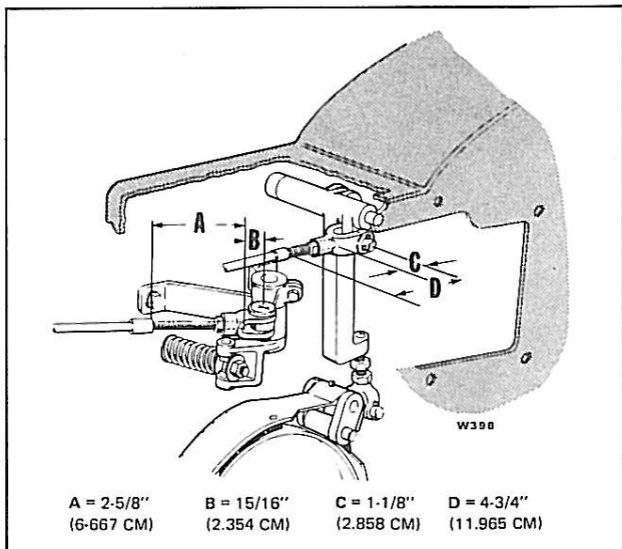

Figure 11. Adjustment of Brake Linkage,
2. Adjust the rod end, at the winch control housing, so that the small cable grommet, threaded cable end, and center of the clevis pin are at dimension **A** and **B**, respectively, as shown in Figure 11.
## 2. Brake Handlever Adjustment. (See Figure 11.)